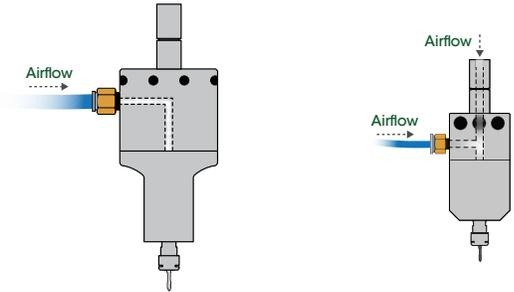

Figure 4: A 625JS with side or rear air inlet Air Turbine Spindle® mounting and a 650JS with side air inlet mounting.
1. Eliminate flow restrictions in your airline. Check if the minimum internal diameter of your hose and fittings meets the requirements for your Air Turbine Spindle® as specified on **Figure 4 on page 1**.